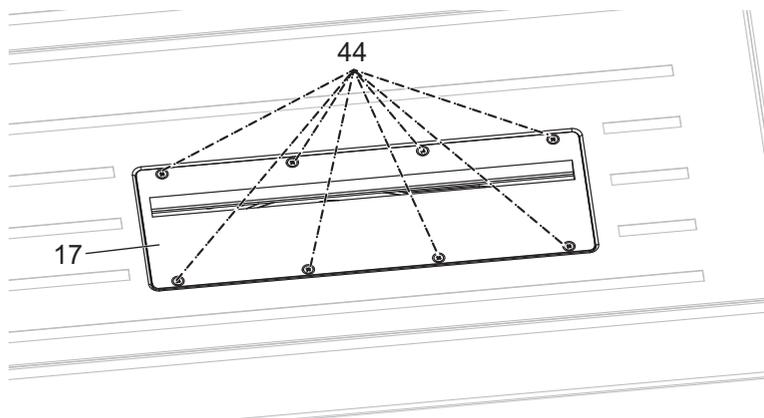

Fig. 8
- > Loosen the eight cross-screws [44] with the screwdriver and remove the table insert [17]. (Fig. 8)